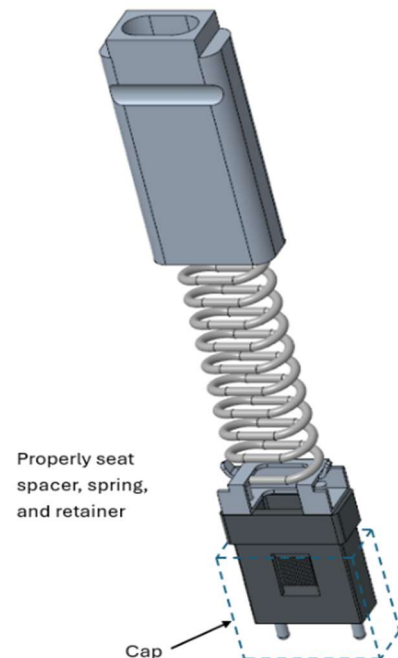

Figure 3
- a. Install protective cap on MT ferrule and keep on until installation in connector – see *Figure 3*.